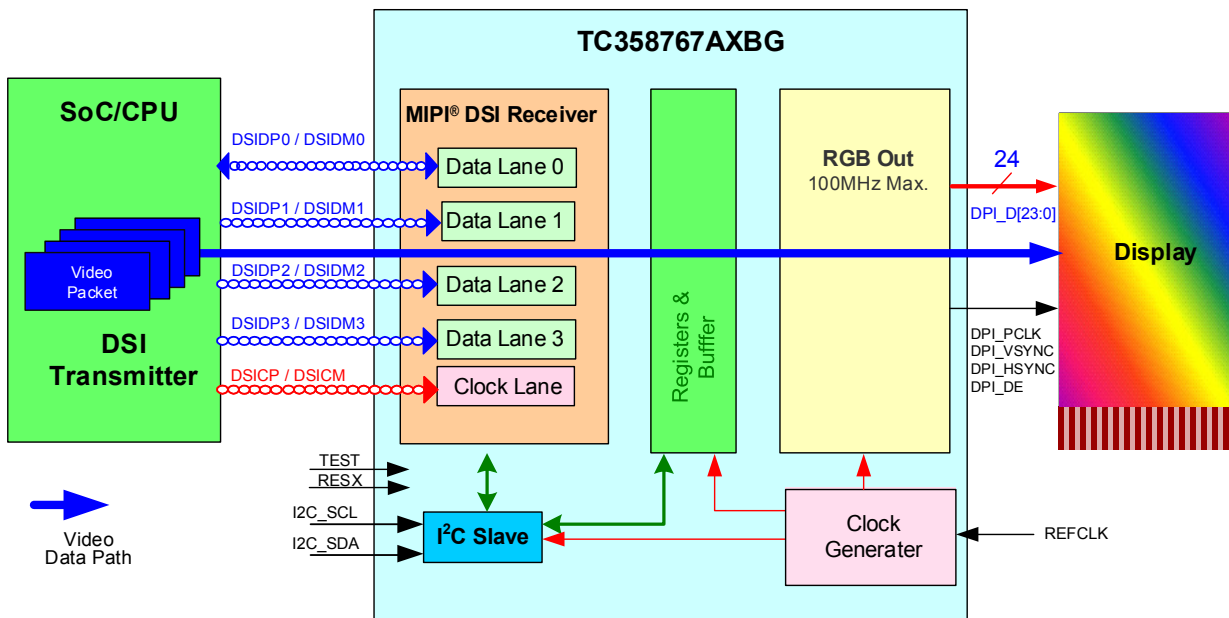

Figure 1.3 System Overview with TC358767AXBG in MODE_S2P Configuration
- **Mode_S2P:** A system configuration where TC358767AXBG may typically be used is shown in Figure 1.3. In this mode, DisplayPort™ output is not used and the chip rather behaves as a DSI to RGB convertor. In this system, TC358767AXBG could be connected to a single display. In this configuration, the TC358767AXBG can support displays with resolution up to WXGA (1280x800 or 1366x768). Max. output PCLK is 100 MHz. Video stream source is from DSI Host.